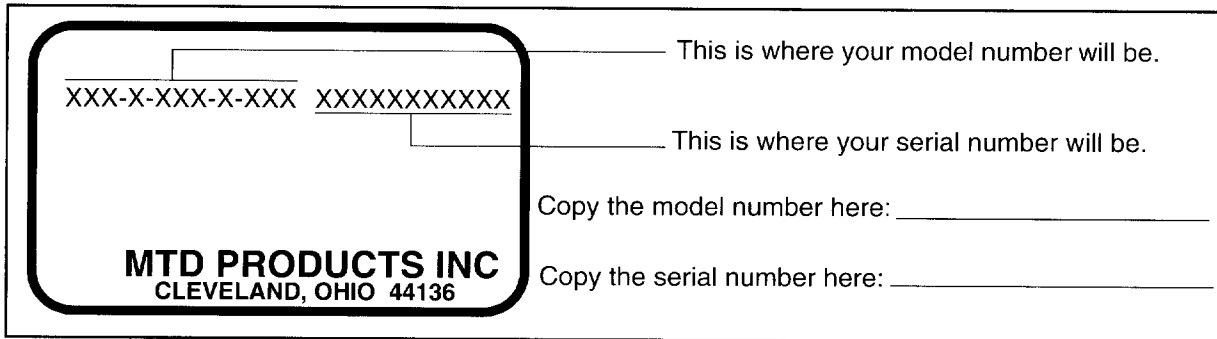

Figure 1
- Every tiller has a model plate. You can locate it by standing in the operating position behind the unit and looking down at the center of the rear tine cover. An example of the model plate is shown below in Figure 1.